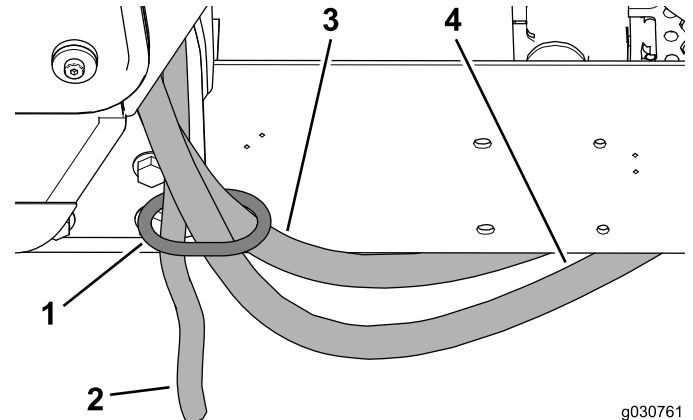

Figure 36
4. Route the hoses for the heater and the drain hose through the hose ring on the rear cab mount (Figure 36).